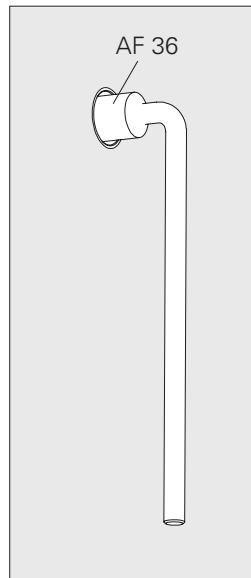
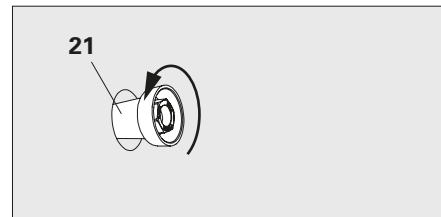

Fig. A5.15
Fig. A5.16
1. Loosen screw ISO 4014-M24x 070-10.9 (23) in Suspension Head VGK (12).
2. Remove Suspension Head VGK (12).
3. Release Screw-On Cone-2 M24/ DW20 (21) using socket wrench AF 36.
4. Unscrew Screw-On Cone-2 M24/ DW20 (21) by hand. (Fig. A5.15 + Fig. A5.16)